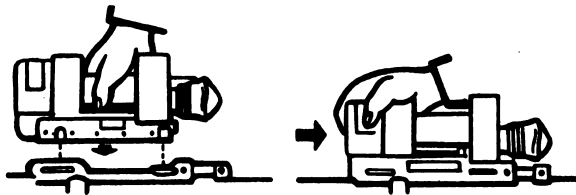

Figure 8
8. Place tracker guide pins in slots of tracker support guide rails, then push tracker firmly to the rear using both hands, until it locks in place (fig. 8).